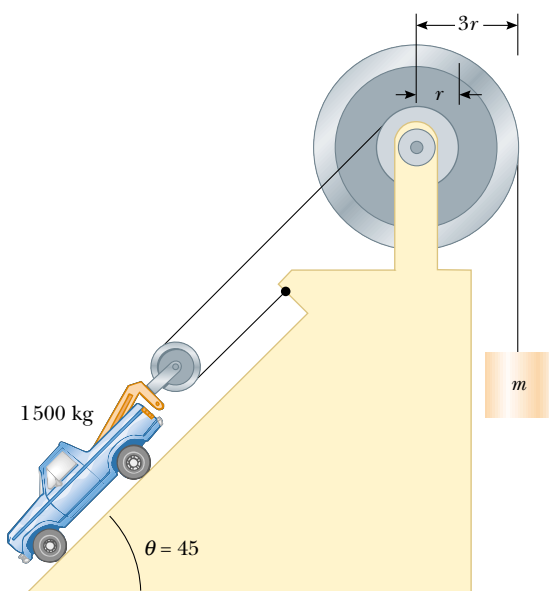

Figure P12.9
9. Find the mass m of the counterweight needed to balance the 1500-kg truck on the incline shown in Figure P12.9. Assume all pulleys are frictionless and massless.